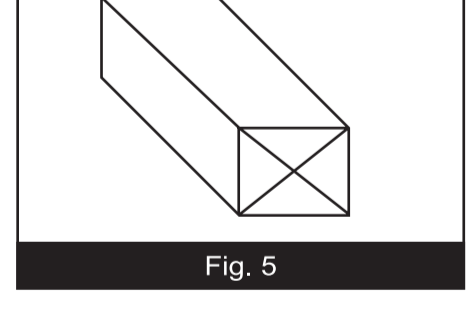

Fig. 6
- Adjust the tool rest approximately 1/8" away from the center of the wood and 1/8" above the center line. Lock the tool rest base and tool rest readjust when the stock diameter is reduced. (Fig. 6)